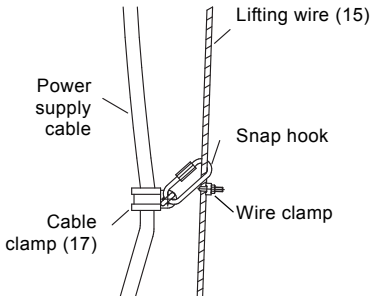

Fig. 8 Attaching the power supply cable to the lifting wire
16. Fix the power supply cable to the lifting wire by means of a cable clamp approx. 0.8 m above the pump. This will prevent the cable from falling down and becoming entangled in the impeller during operation. Connect the cable clamp to the lifting wire above the wire clamp by means of a snap hook. See fig. 8. Attach the power supply cable to the lifting wire by means of cable clamps placed at 1 m intervals.